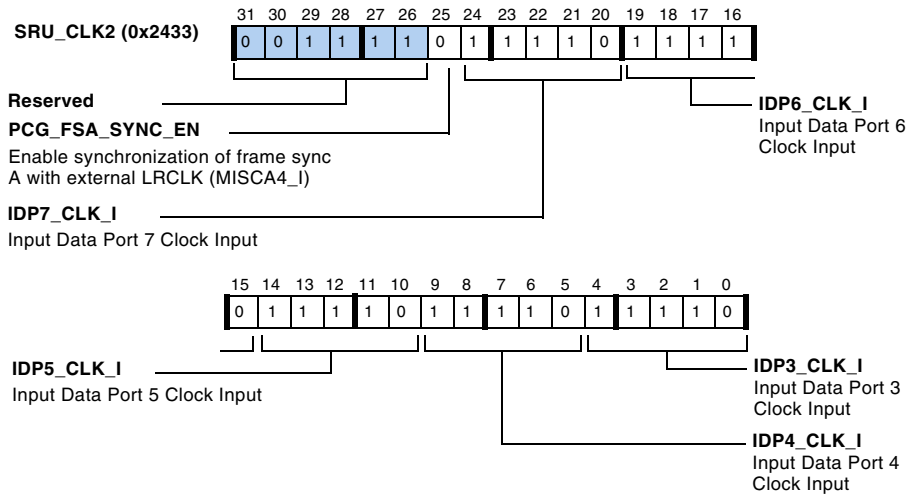

Figure A-36. SRU\_CLK2 Register
- SRU\_CLK2, described in Figure A-36 on page A-116